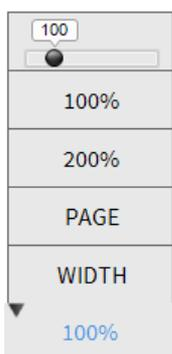

Fig 30
- Click the **Zoom** button. The following menu is displayed (Fig 30)